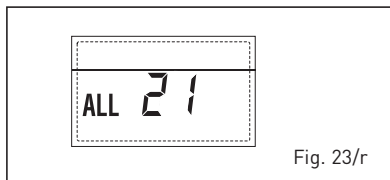

Fig. 23/r
**- SAFETY THERMOSTAT INTERVENTION SECOND MIXED ZONE "ALL 22" (fig. 23/s)**